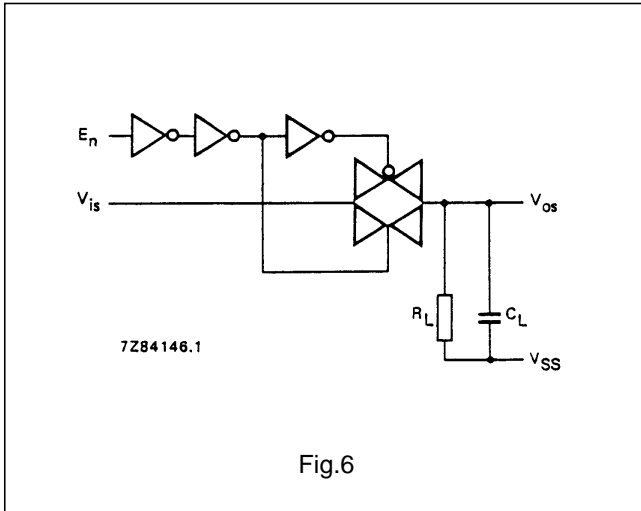

Fig.6
- $R_L = 10\text{ k}\Omega$  to  $V_{SS}$ ;  $C_L = 50\text{ pF}$  to  $V_{SS}$ ;  $E_n = V_{DD}$ ;  $V_{is} = V_{DD}$  (square-wave); see Figs 6 and 10.
$V_{is} = V_{SS}$  and  $R_L$  to  $V_{DD}$  for  $t_{PLZ}$  and  $t_{PZL}$ ; see Figs 6 and 11.
- $R_L = 10\text{ k}\Omega$  to  $V_{SS}$ ;  $C_L = 15\text{ pF}$  to  $V_{SS}$ ;  $E_n = V_{DD}$  (square-wave); crosstalk is  $|V_{os}|$  (peak value); see Fig.6.